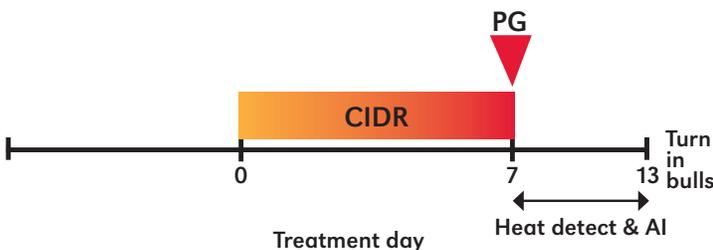

Figure 3. CIDR-PG with HD.
**CIDR-PG with HD** (Figure 3). In this heifer protocol prostaglandin is used in combination with CIDR. On the first day (day 0), all heifers receive a CIDR, which remains in the heifer for 7 days. On the 7th day, the CIDR is removed and all heifers are injected with prostaglandin. From day 7 through day 13 of the protocol, observe heifers for standing estrus and inseminate 12 hours after estrus is detected.